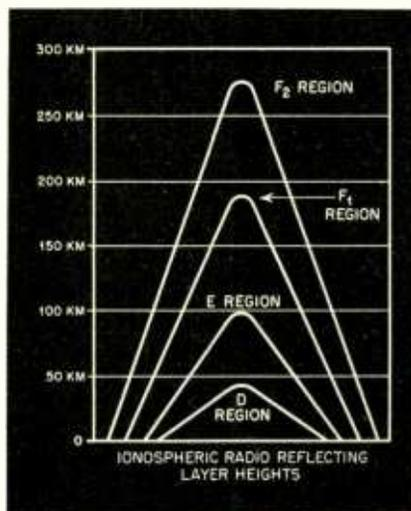

Fig. 3. Ionospheric radio reflecting layer heights
The sky wave (2), however, depends on reflecting layers of ionized gas molecules in the ionosphere and is useful for great distances. These reflecting layers are usually designated by letters. (See *Fig. 3*).